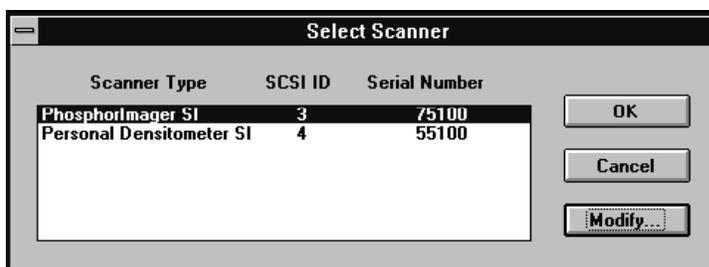

Figure 4-2. The Select Scanner window.
1. Click on the **Select Scanner** button. The Select Scanner window opens (figure 4-2).